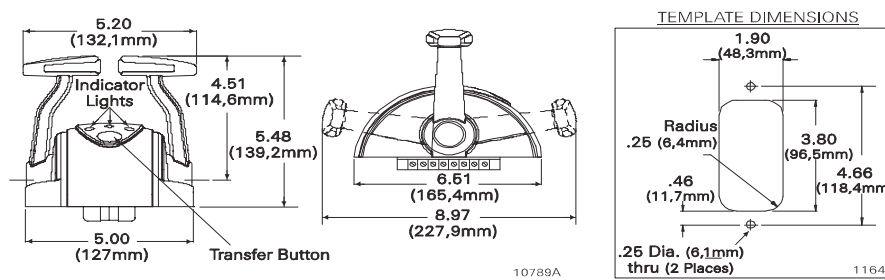

Figure MMC-329-2: Dimensions
- Select the desired mounting locations and make cutouts per template. Refer to Figure MMC-329-2: Dimensions.